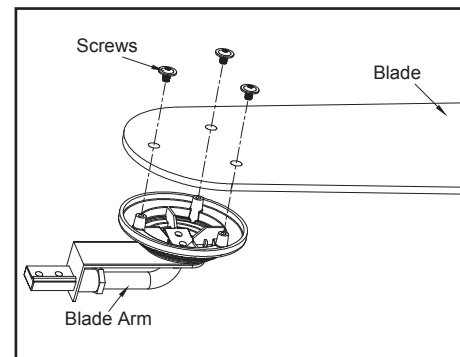

Figure 11
1. Attach a blade to a blade bracket by aligning the three screw holes in the blade and the screw holes in the blade bracket and secure with screws provided; Repeat for the remaining blades. (Figure 11)